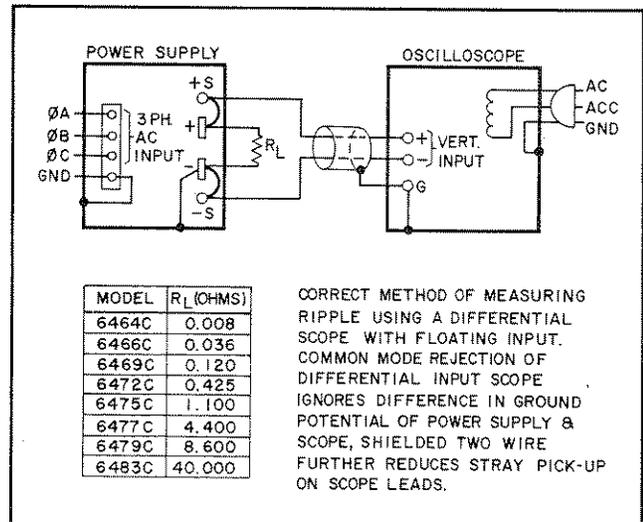
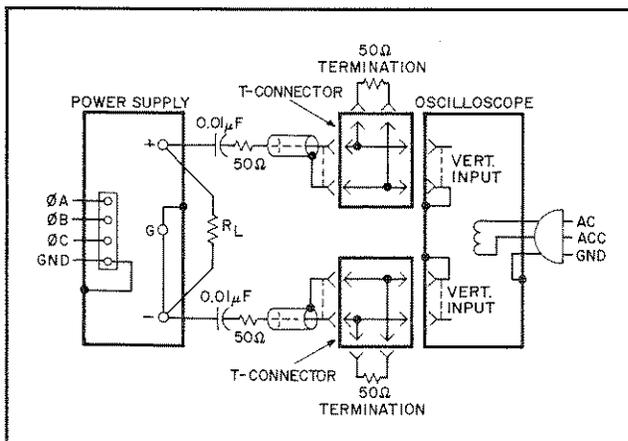

Figure 5-2. Ripple Test Setup
Figure 5-3. Noise Spike Measurement Test Setup
- Connect load resistor (R_L) indicated in Figure 5-2 across output busbars.
5-17 Figure 5-2 shows the recommended method of measuring ripple using a differential scope. If desired, two single-conductor shielded cables may be substituted in place of the shielded two-wire cable with equal success. Because of its common mode rejection, a differential oscilloscope displays only the difference in signal between its two vertical input terminals, thus ignoring the effects of any common mode signal produced by the difference in the ac potential between the power supply case and scope case. Before using a differential input scope in this manner, however, it is imperative that the common mode rejection capability of the scope be verified by shorting together its two input leads at the power supply and observing the trace on the CRT. If this trace is a straight line, then the scope is properly ignoring any common mode signal present. If this trace is not a straight line, then the scope is not rejecting the ground signal and must be realigned in accordance with the manufacturer's instructions until proper common mode rejection is attained.
- Connect oscilloscope or rms voltmeter as shown in Figure 5-2.
5-21 The test setup illustrated in Figure 5-2 is generally not acceptable for measuring spikes:
- As shown in Figure 5-3, two coax cables must be substituted for the shielded two-wire cable.
5-22 The circuit of Figure 5-3 can also be used for the normal measurement of low frequency ripple; simply remove the four terminating resistors and the blocking capacitors and substitute a higher gain vertical plug-in in place of the wide-band plug-in required for spike measurements. Notice that with these changes, Figure 5-3 becomes a two-cable version of Figure 5-2.